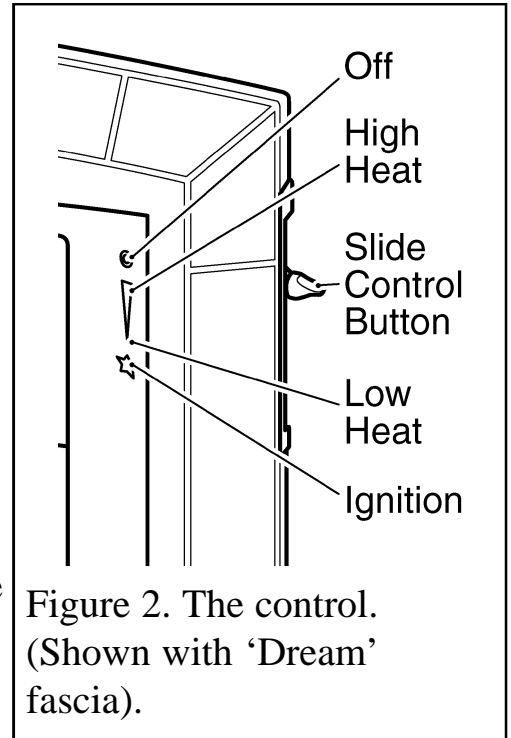

Figure 2. The control. (Shown with 'Dream' fascia).
The slide control is shown in figure 2.
3. If low heat is required, release the button. The button will automatically spring up to the low heat position shown in figure 2 (See note i below).
4. For a higher heat level slide the button upwards. The burner flames and heat output will gradually increase until the button reaches the high heat position shown in figure 2. When the button reaches the high heat position you will feel a check to its movement.